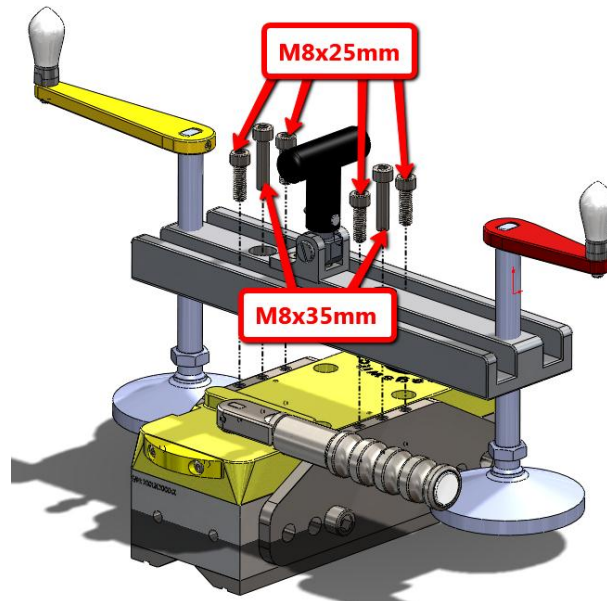

Figure 2.b: Connect the Side Plates (With Heavy Lifters) to the Heavy Sheet Leveler Main Plate by Four M8x25mm Bolts and Two M8x35mm Bolts
- c. After Setting up the Heavy Sheet Leveler, double check the handles installed. Make sure that the Long Yellow Handle was installed on the short side, and the Short Red Handle was installed on the long side. (Figure 2.c)